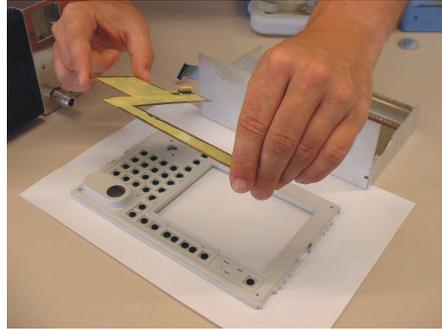
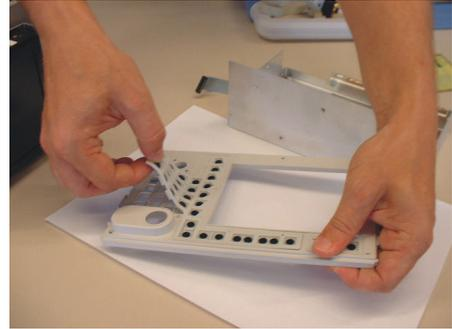

Figure 1-17
Figure 1-18
11. Remove keyboard PCB and keypad (see Figure 1-17, Figure 1-18).